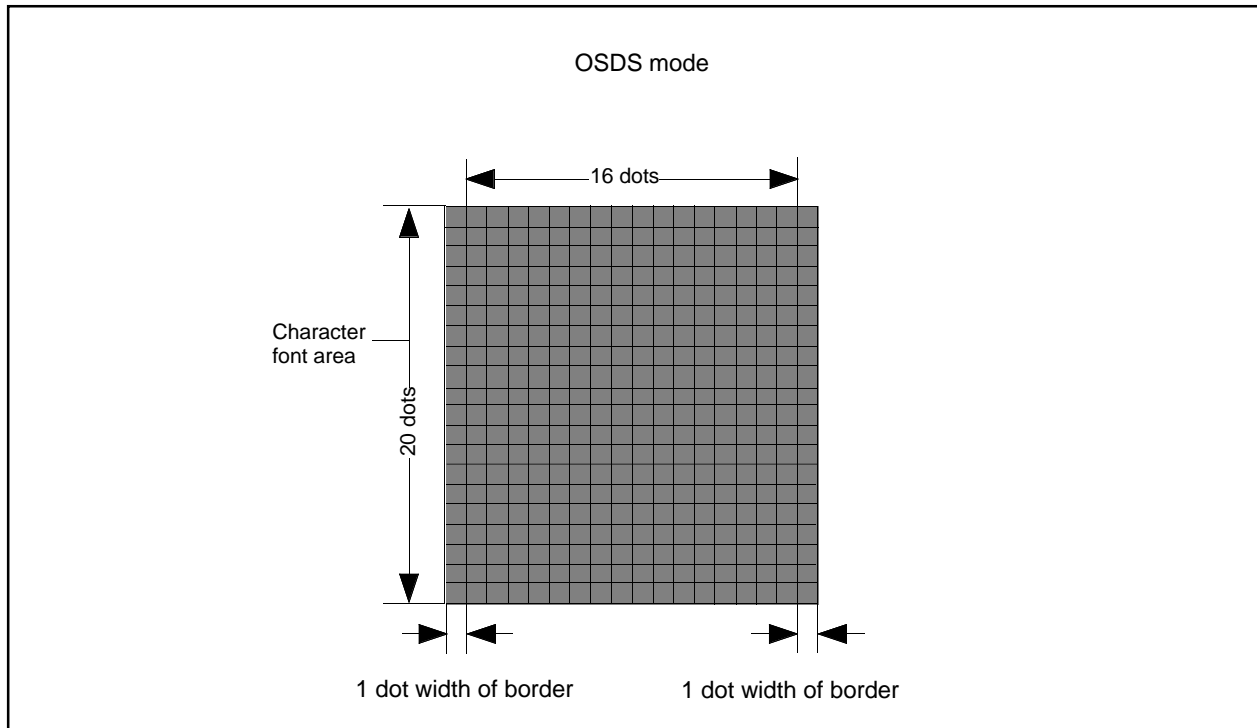

Figure 2.16.36 Border area
**Notes 1 :** The border dot area is the shaded area as shown in Figure 2.16.36.